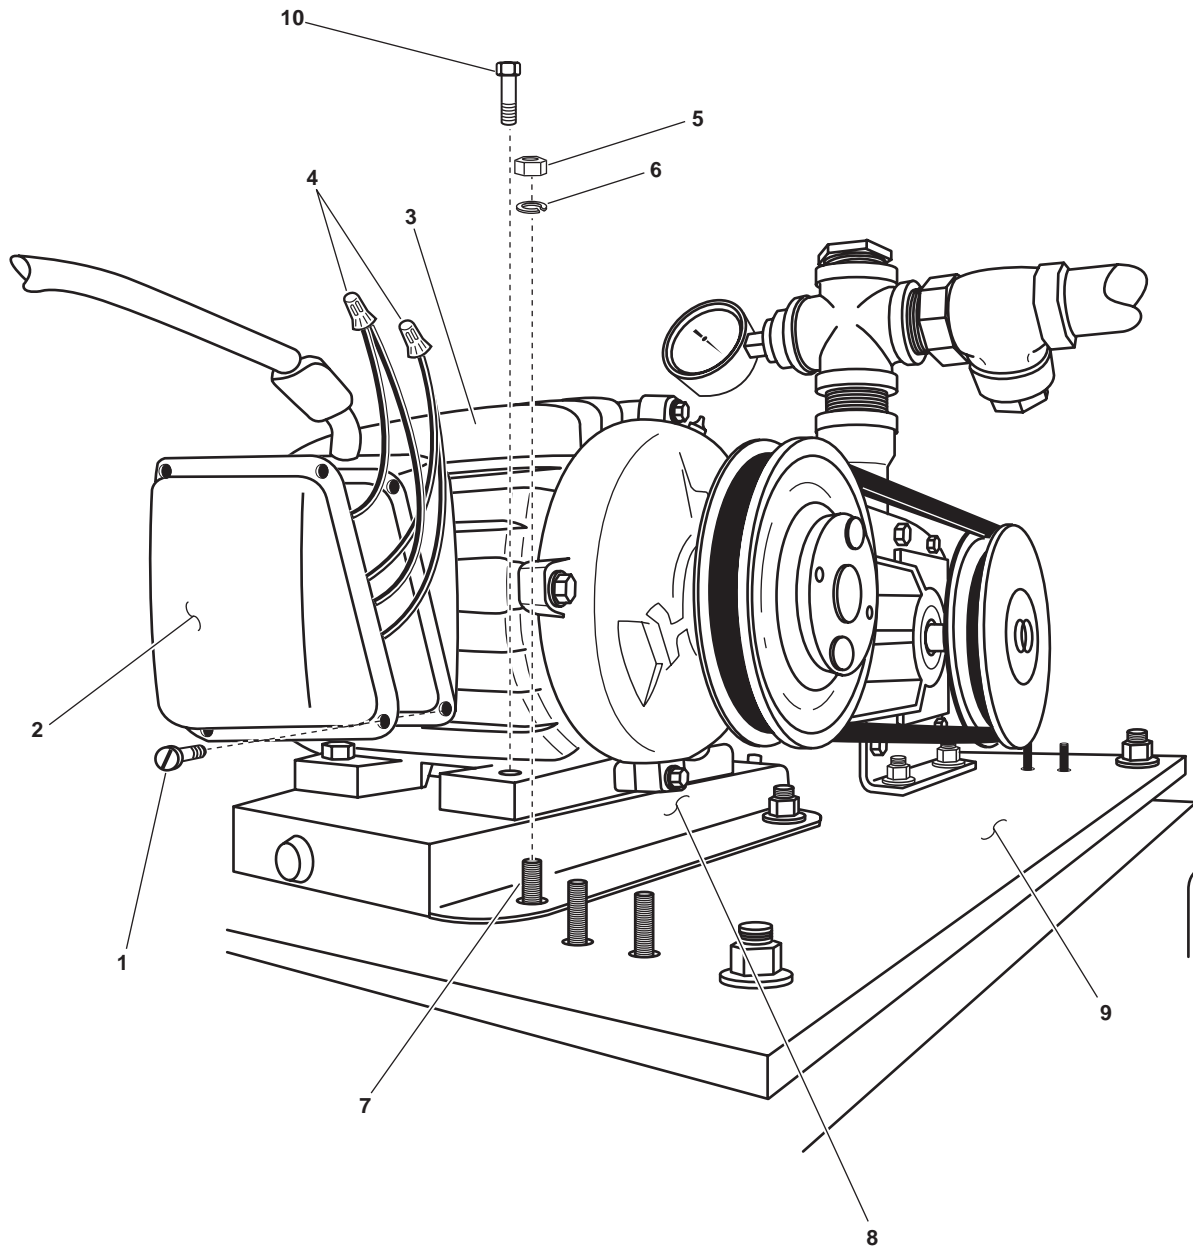

Figure 1. Blower Assembly Motor
2. Remove the four screws (figure 1, item 1) from the junction box cover (figure 1, item 2) on the blower assembly motor (figure 1, item 3).
3. Remove the junction box cover (figure 1, item 2) from the blower assembly motor (figure 1, item 3).
4. Check for available voltage at the wiring (figure 1, item 4). If voltage is present, ensure that the proper circuit breaker is secured, locked out, and tagged out (FM 55-502). If no voltage is present, continue with the procedure.
5. Label and disconnect the wiring (figure 1, item 4) to the blower assembly motor (figure 1, item 3).
6. Remove the four nuts (figure 1, item 5) and the four lockwashers (figure 1, item 6) from the studs (figure 1, item 7) that secure the blower assembly motor mounting plate (figure 1, item 8) to the foundation (figure 1, item 9). Discard the lockwashers.
7. Using two crewmembers, remove the blower assembly motor (figure 1, item 3) and the blower assembly motor mounting plate (figure 1, item 8) from the foundation (figure 1, item 9).
8. Remove the four bolts (figure 1, item 10) that secure the blower assembly motor (figure 1, item 3) to the blower assembly mounting plate (figure 1, item 8).
9. Using two crewmembers, remove the blower assembly motor (figure 1, item 3) from the blower assembly mounting plate (figure 1, item 8).
1. Using two crewmembers, install the blower assembly motor (figure 1, item 3) on the blower assembly mounting plate (figure 1, item 8).
2. Install the four bolts (figure 1, item 10) that secure the blower assembly motor (figure 1, item 3) to the blower assembly mounting plate (figure 1, item 8). Do not tighten the bolts at this time.